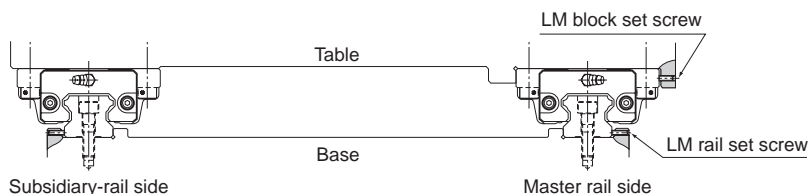

Fig.1 When an Impact Load is Applied to the Machine
(1) Gently place the table on the LM blocks and temporarily fasten the mounting bolts.
(2) Press the master side LM blocks to the side reference surface of the table using set screws and position the table. (See Fig.1 on A-340.)
(3) Fully fasten the mounting bolts on the master side and the subsidiary side to complete the installation.